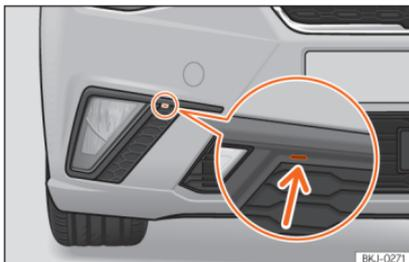

Fig. 58 Front fog light: remove the grille
- Lever the groove with a screwdriver » **Fig. 58** (arrow). Next, remove the clips located on the edge of the grille, levering them gently.